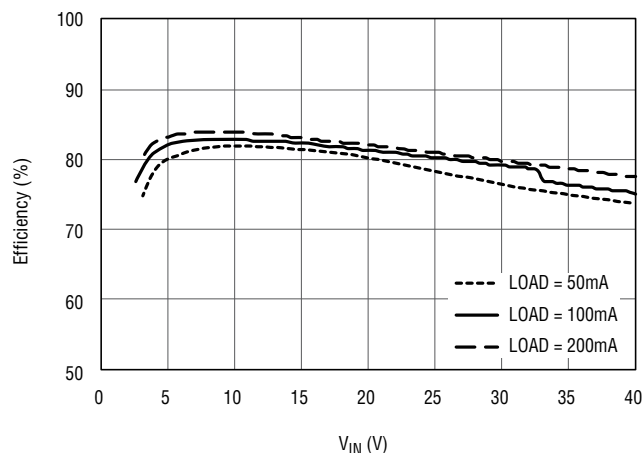

Figure 2. DC2119A Efficiency in Burst Mode
3. Connect a 500mA load to  $V_{OUT}$  as shown in Figure 2 ( $10\Omega$  for  $V_{OUT} = 5V$ ). Connect an ammeter if accurate current measurement or monitoring is desired.